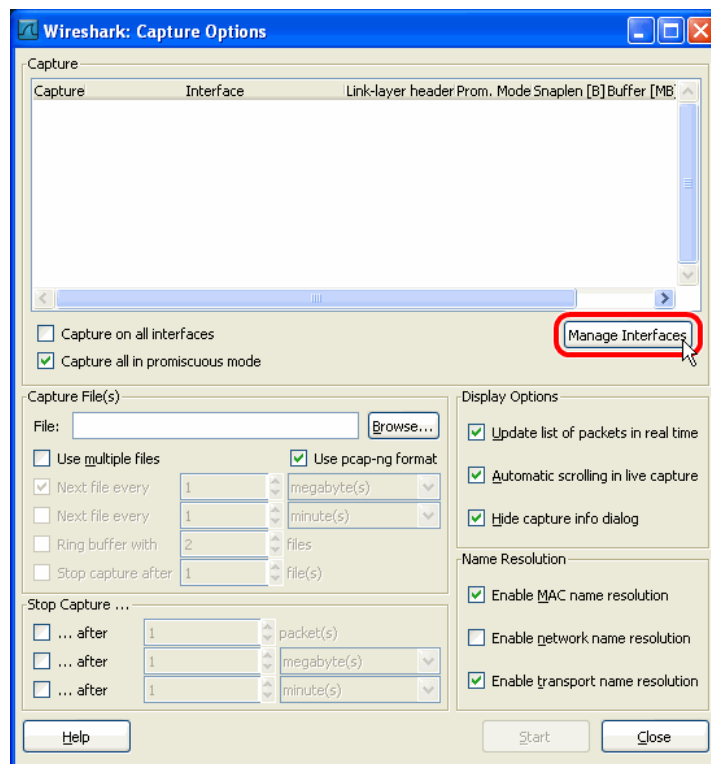

Figure 376: Wireshark Capture Options Dialog.
1. Open Wireshark and choose the menu **Capture** → **Options...** . This opens the **Capture Options** dialog as shown in Figure 376.